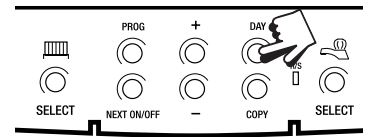

Fig. 5
5. Press the **PROG** button (Fig. 2) to return display to **RUN** mode (Fig. 5).
4. Press the **PROG** button (Fig. 2) to return display to **RUN** mode (Fig. 5).
3. Press the **PROG** button (Fig. 2) to return display to **RUN** mode (Fig. 5).